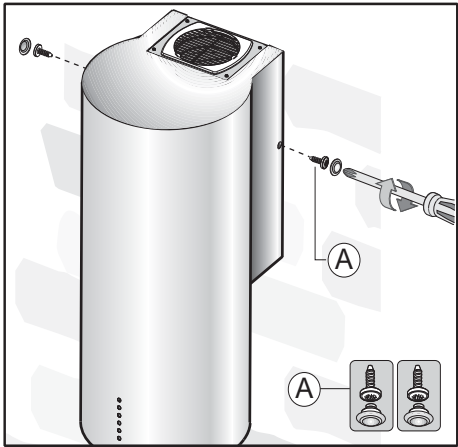
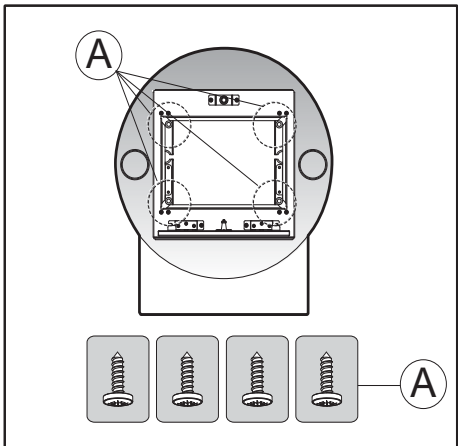

Fig.12
Fig.13
- First, fix the side screws **D** on the bodywork in place (these are connected to the frame underneath) as indicated in Fig. 12, then tighten the screws **A** on the lower part of the cooker hood as indicated in Fig. 13.